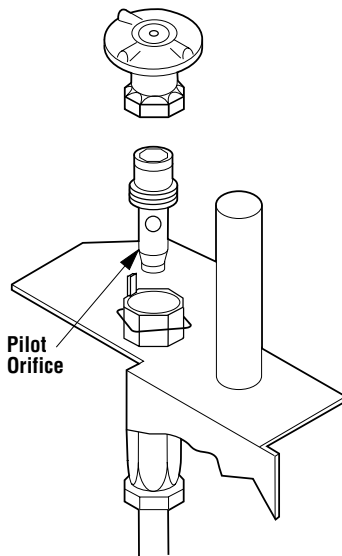

Figure 29
Step 7. Refer to **Figure 29** and remove the pilot hood assembly to access the hexed pilot orifice. Remove and replace the orifice with the one provided with the kit.